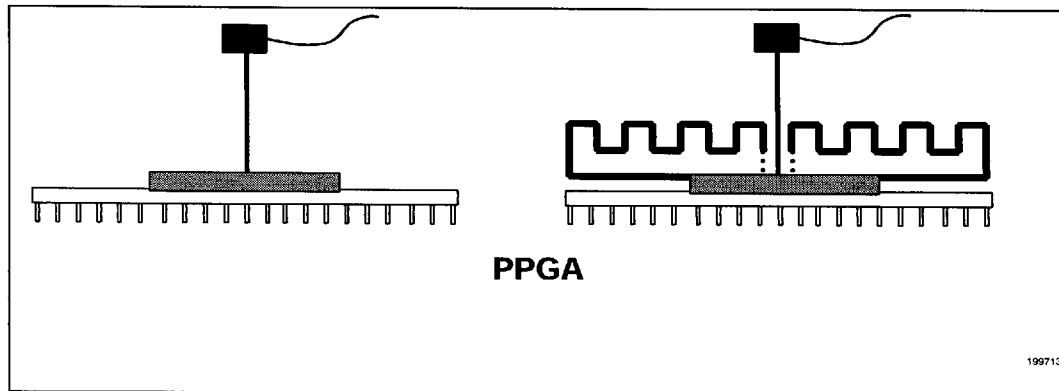

Figure 28. Technique for Measuring T_C on PPGA Packages
- The thermocouple should be attached at a 90-degree angle as shown in Figure 28.